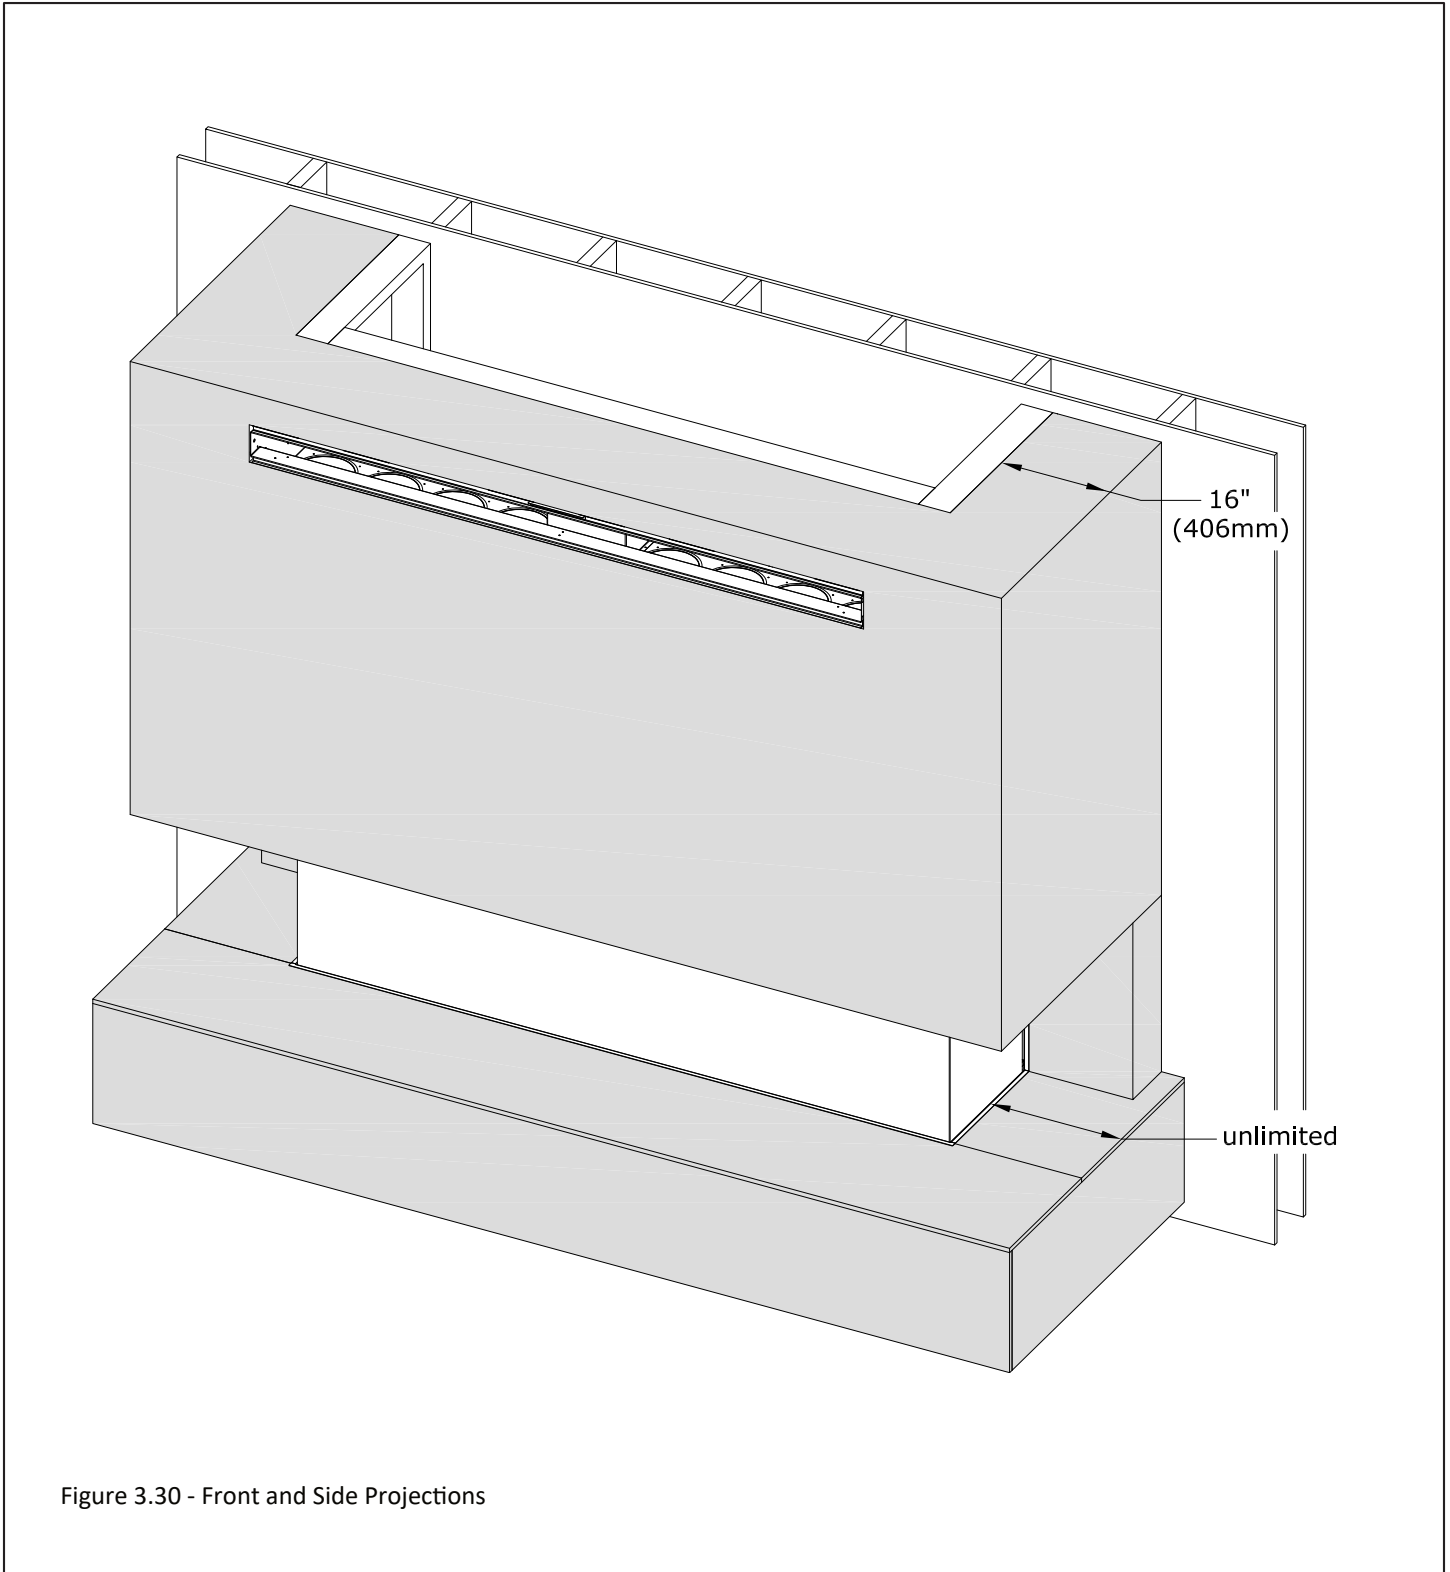

Figure 3.30 - Front and Side Projections
- **Combustible Mantel Leg:** A mantel leg can be installed at 0" (0mm) to the fireplace side finishing edge. Refer to Figure 3.30 which shows a combustible projection up to a max of 16" (407mm) on the fireplace side finishing edge.
Figure 3.30 shows a fireplace with a front and side chamber projection with a hearth installed.